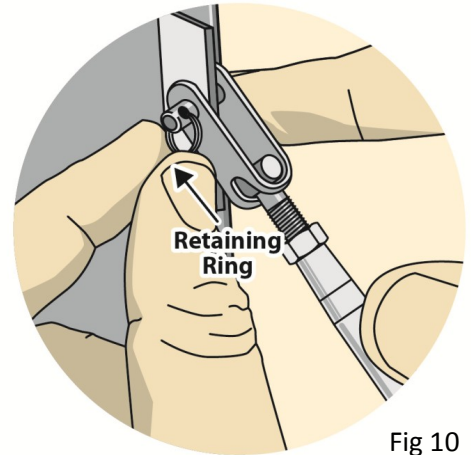

Fig 10
- Insert Pin and replace Retaining Ring (Fig. 10)